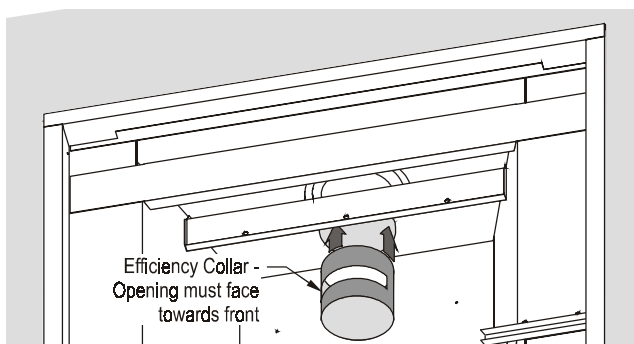

Figure 18. *Installing the efficiency collar.*
8. Install the efficiency collar as shown in figure 18. Use a long screwdriver to hold the collar out of the way while you install the Heating Insert.